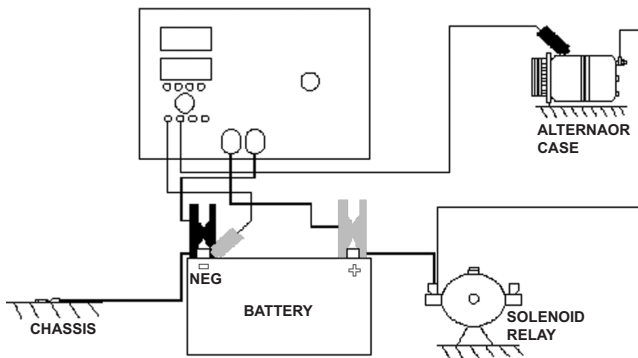

Figure 8
5. Measure Ground Circuit voltage drop by connecting voltmeter from battery NEG post to the alternator case. Over $\pm 0.2V$ shows bad connections. See Figure 8.